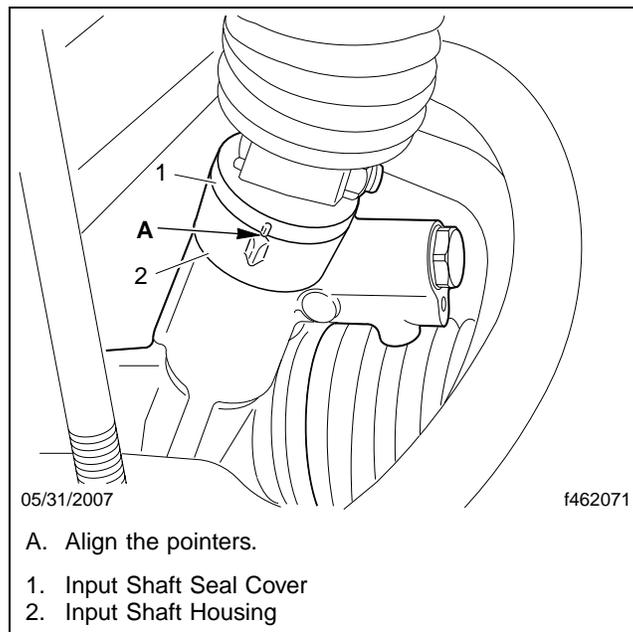

Fig. 10, Pointer Alignment
- 35.2 Align the pointers on the input shaft seal cover and the input shaft housing. See **Fig. 10**.